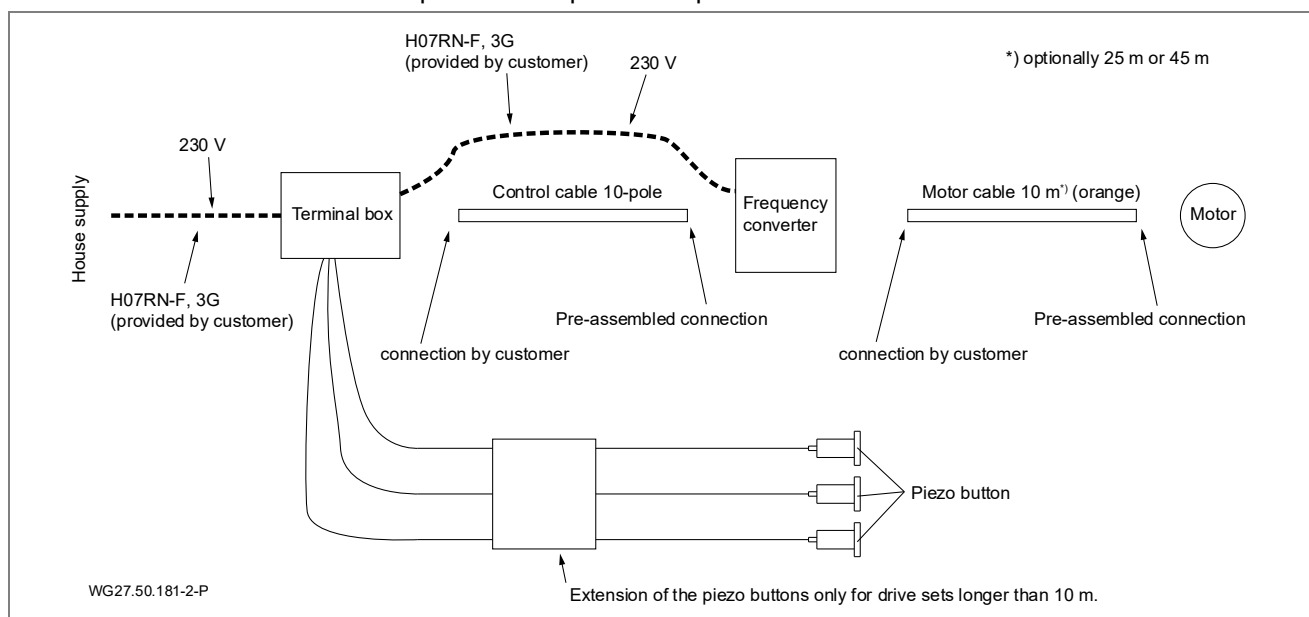

Fig. 19
14. The wires for the PTC (brown or black (BR1)/white (BR2)) must be connected according to the circuit diagram. See "Fig. 19" on page 25.